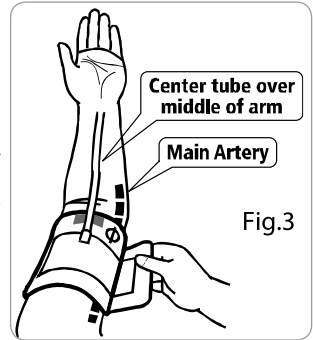

Fig.3
- Center the tube over the middle of the arm. Press the hook and loop material together securely. Allow room for 2 fingers to fit between the cuff and your arm. Position the artery mark (Φ) over the main artery (on the inside of your arm). (Fig. 3,4) **Note:** Locate the main artery by pressing with 2 fingers approximately 2cm above the bend of your elbow on the inside of your left arm. Identify where the pulse can be felt the strongest. This is your main artery.